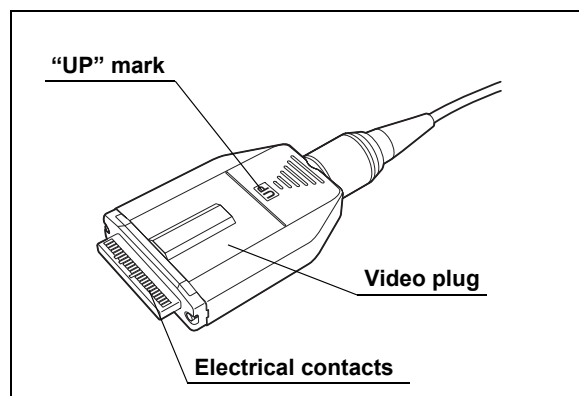

Figure 4.2
- Make sure that the video plug and its electrical contacts are completely dry before connecting the plug to the video system center (see Figure 4.2). Wet equipment could cause the image to flicker or disappear.